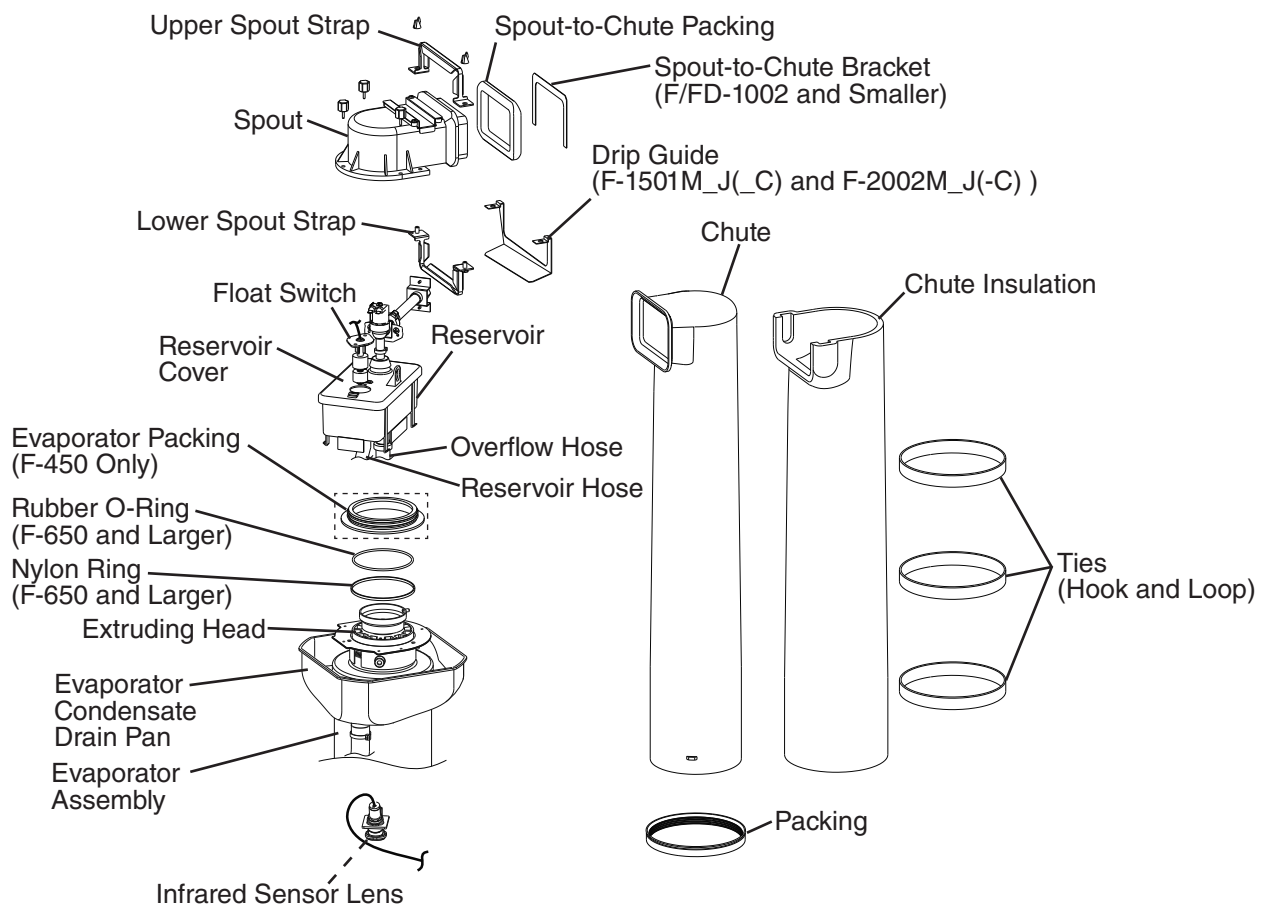

Fig. 20
- 6) Remove the upper and lower straps connecting the spout to the chute assembly, then remove the spout. See Fig. 20.